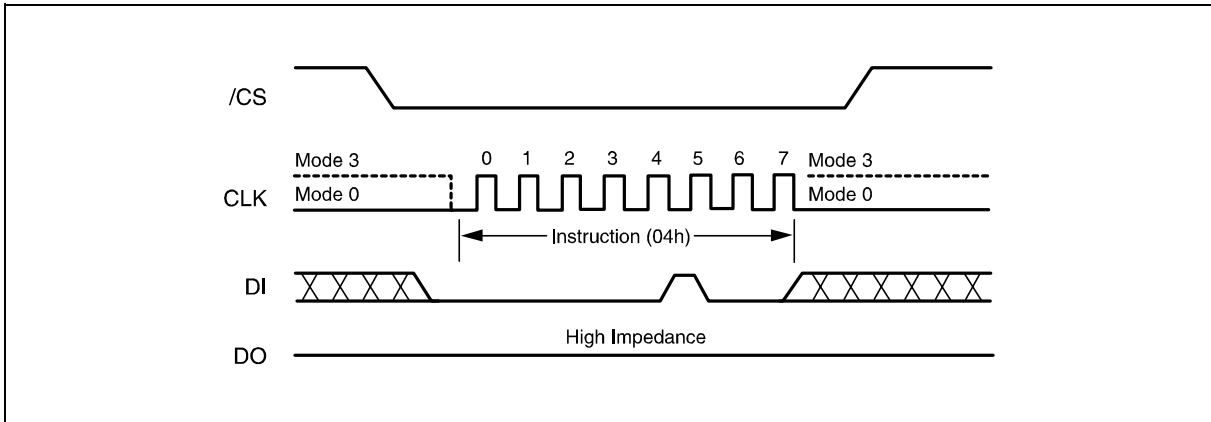

Figure 4. Write Disable Instruction Sequence Diagram
Instructions vary in length from a single byte to several bytes and may be followed by address bytes, data bytes, dummy bytes (don't care), and in some cases, a combination. Instructions are completed with the rising edge of edge /CS. Clock relative timing diagrams for each instruction are included in figures 4 through 21. All read instructions can be completed after any clocked bit. However, all instructions that Write, Program or Erase must complete on a byte boundary (/CS driven high after a full 8-bits have been clocked) otherwise the instruction will be terminated. This feature further protects the device from inadvertent writes. Additionally, while the memory is being programmed or erased, or when the Status Register is being written, all instructions except for Read Status Register will be ignored until the program or erase cycle has completed.
The Write Enable instruction (Figure 4) sets the Write Enable Latch (WEL) bit in the Status Register to a 1. The WEL bit must be set prior to every Page Program, Sector Erase, Chip Erase and Write Status Register instruction. The Write Enable instruction is entered by driving /CS low, shifting the instruction code “06h” into the Data Input (DI) pin on the rising edge of CLK, and then driving /CS high.